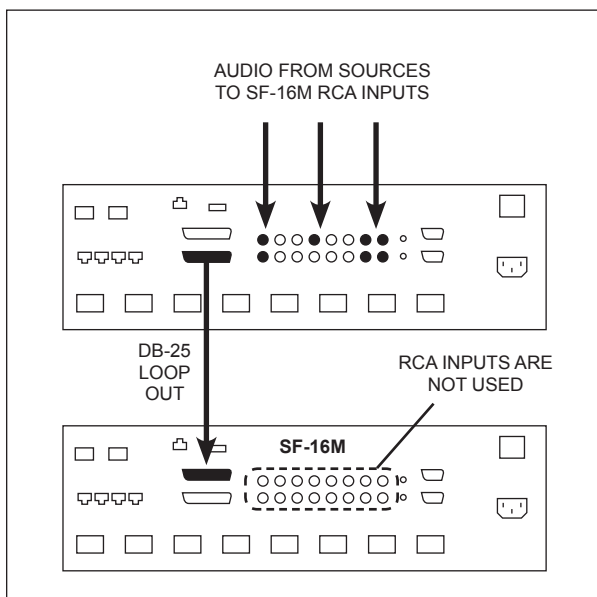

Figure 2
- 1. Source audio link between SF-16M units:** When multiple SF-16M units are linked together, the DB-25 audio input receives source audio from the DB-25 audio loop output of the previous SF-16M. The source audio originates from the RCA audio inputs or the DB-25 audio input of the first SF-16M chassis. (See Figure 2).